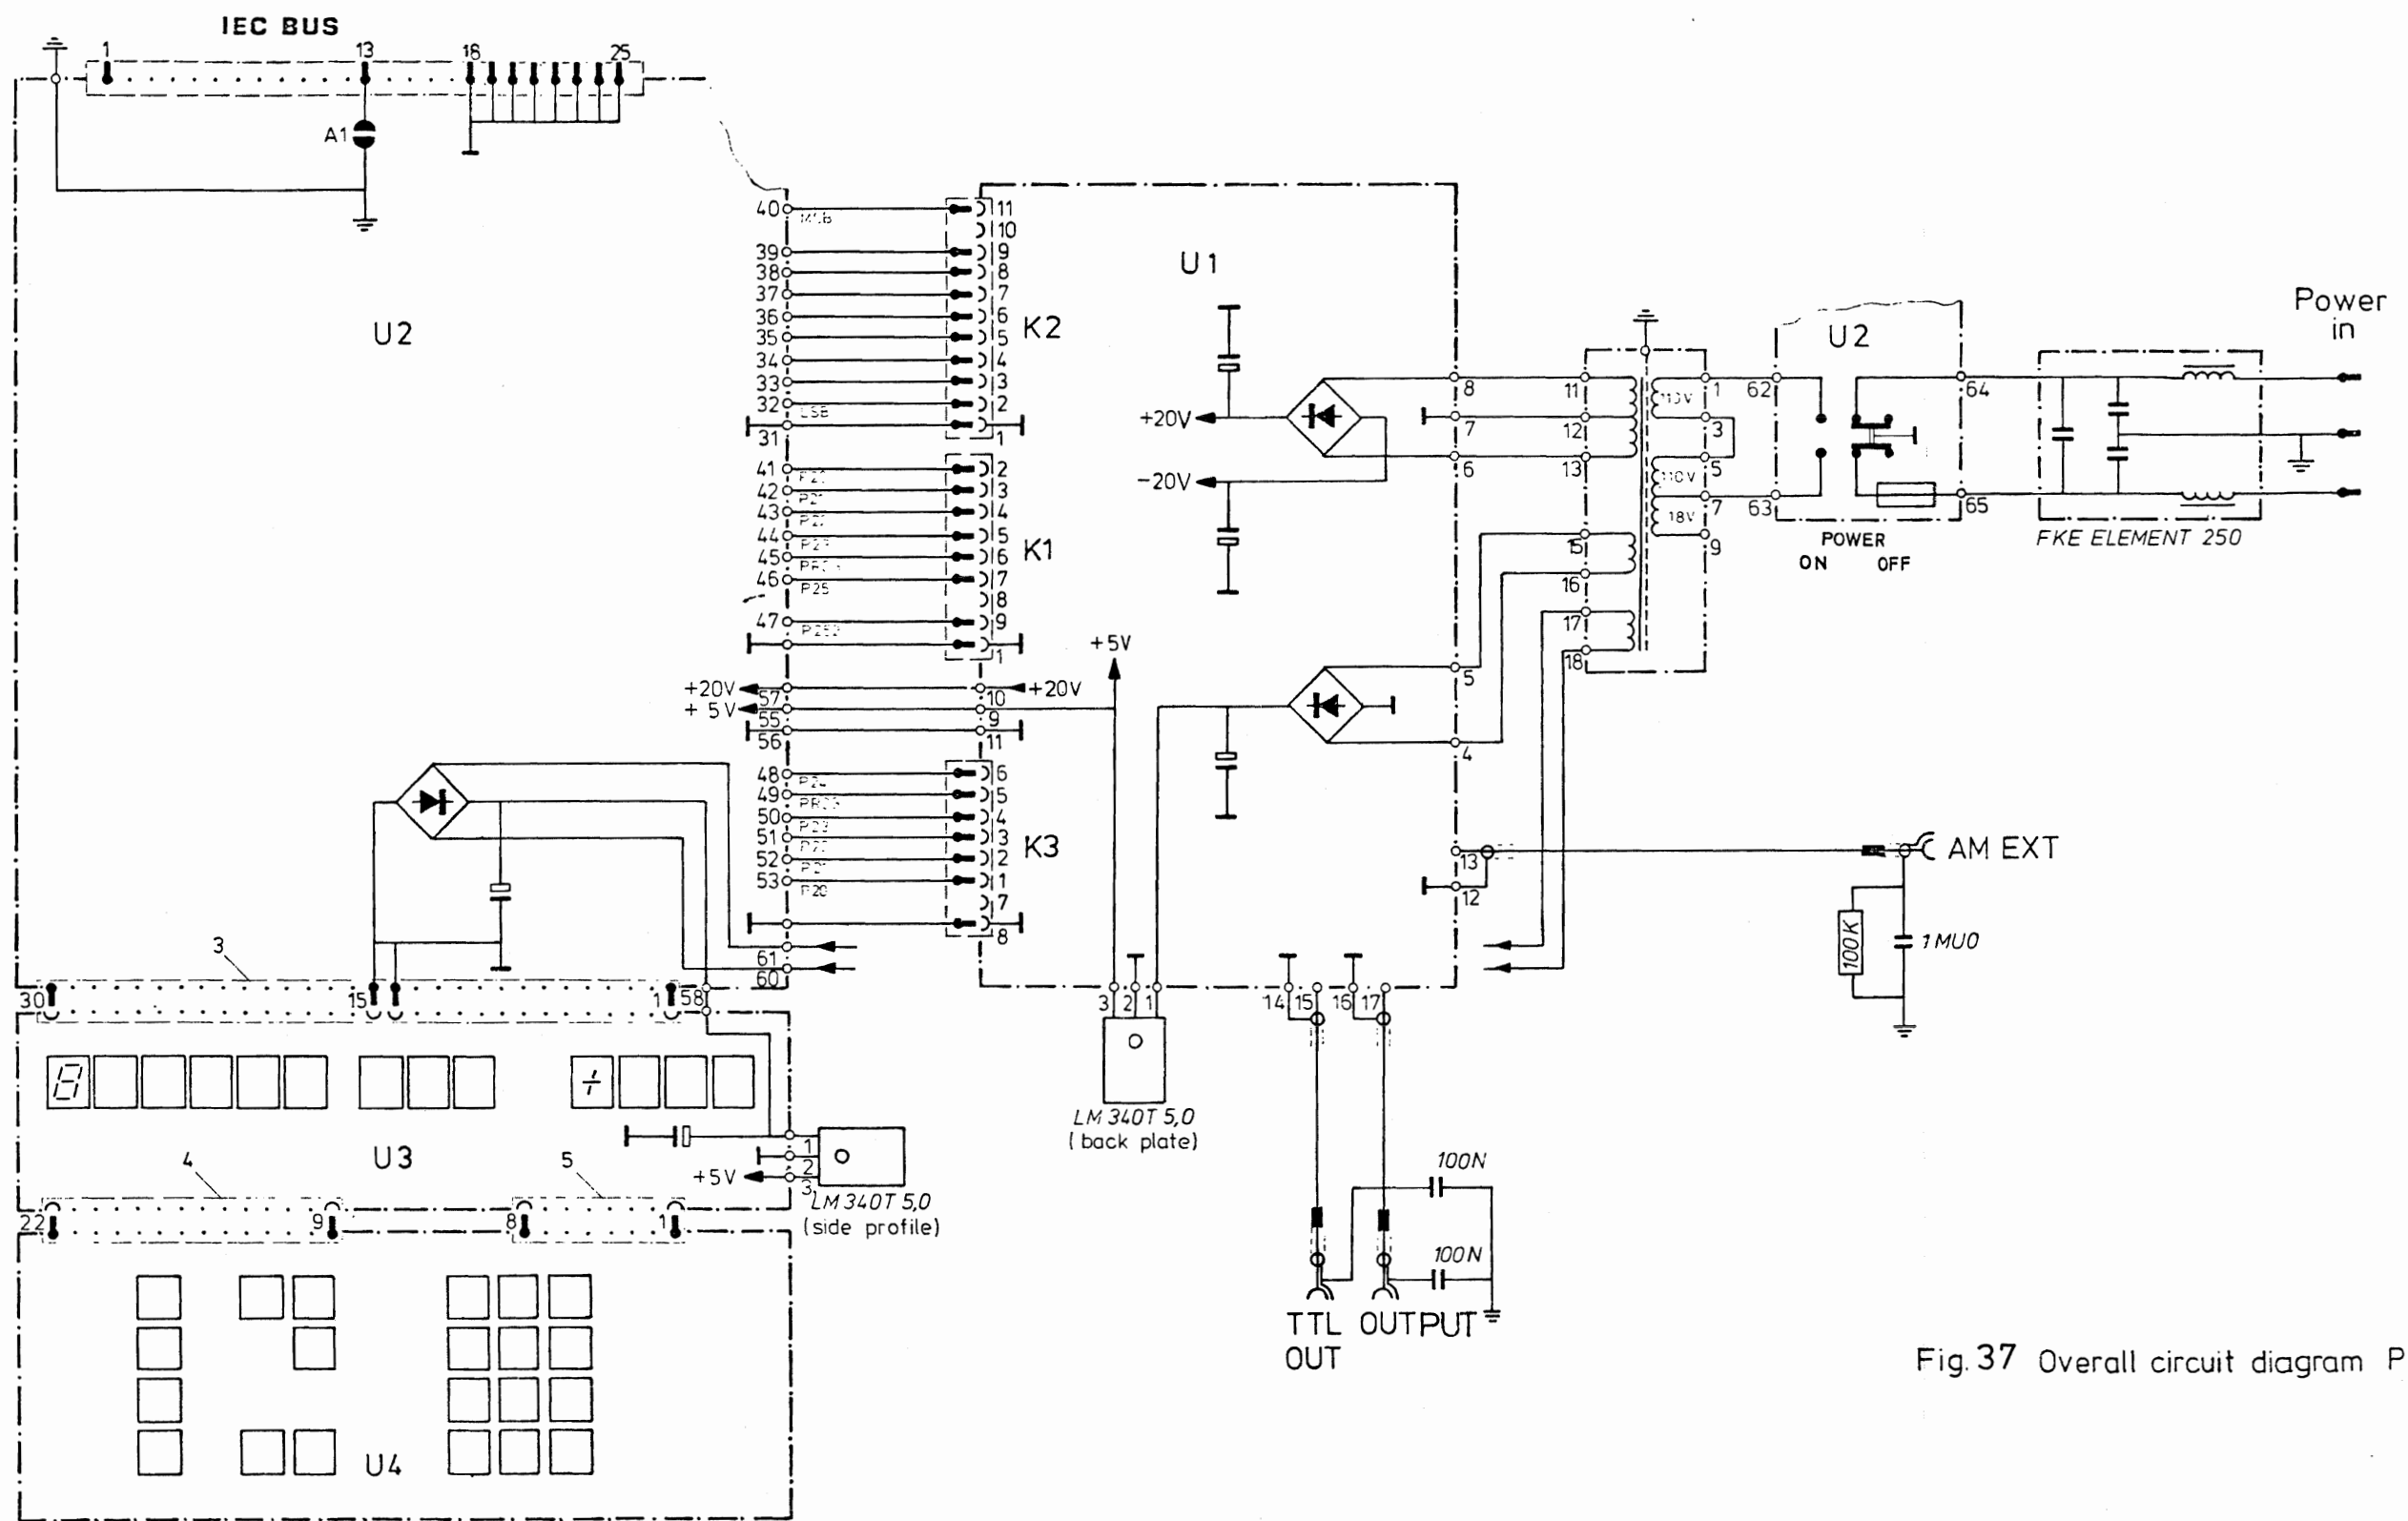

Fig. 37 Overall circuit diagram PM 5190
1.2. The mains fuse is now accessible at the rear side of the instrument. The internal fuse on unit 2 is short cut by a link (figs. 37, 44, 45 of the manual).